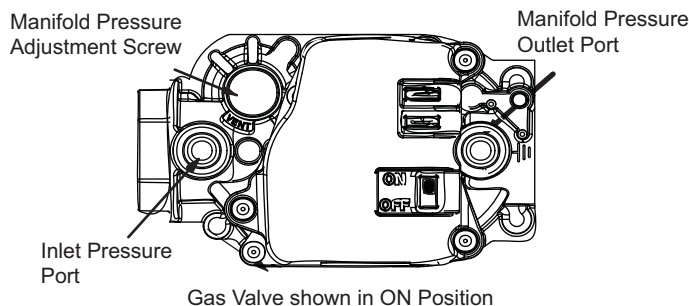

Figure 20. Gas Valve Operation
- 6 - Move gas valve switch to OFF position. Do not force. See **FIGURE 20**.
- 8 - Move gas valve switch to ON position. Do not force. See **FIGURE 20**.
- 4 - Move gas valve switch to OFF position. Do not force. See **FIGURE 20**.